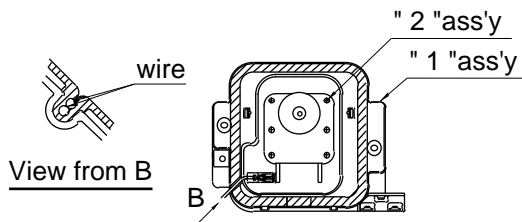

Fig. A-12
4. Insert the wire of Defrost thermo. ass'y to the place of " 3 " ass'y as shown in Fig. A-12.